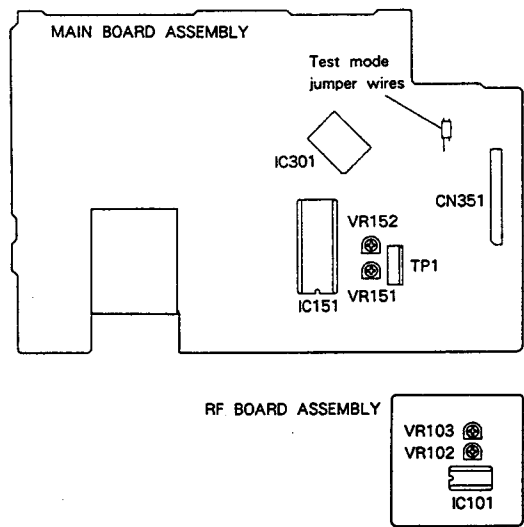

Figure 1 Adjustment Locations
- 2. Short the test mode jumper wires. (See Figure 1.)